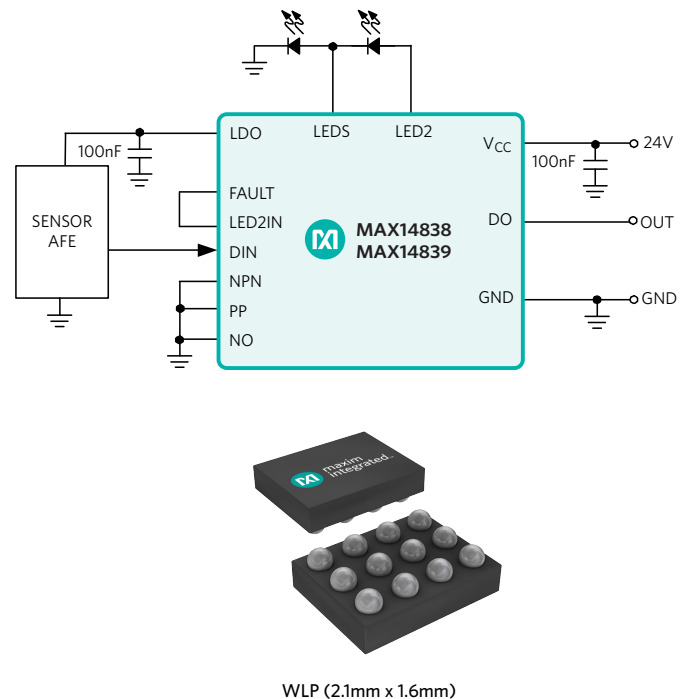

Figure 31. MAX14838/MAX14839 Binary Sensor Driver
- On-Board 5V Linear Regulator (MAX14838)/3.3V Linear Regulator (MAX14839) (Figure 31)